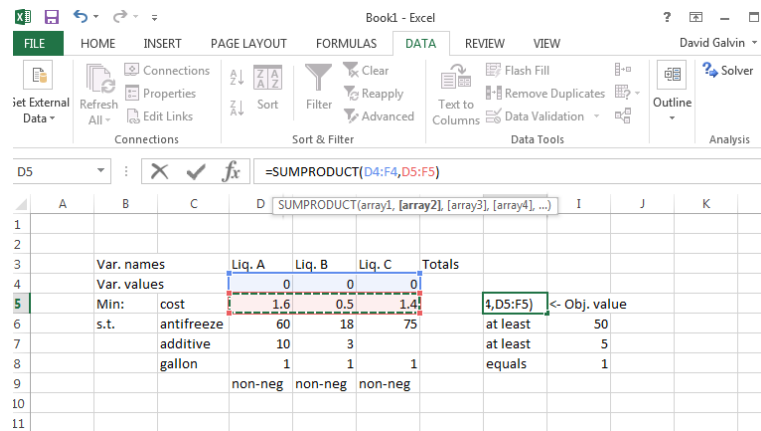

Figure 2: Telling Excel what the objective function is
1. Tell Excel that the objective value, appearing in cell H5, is calculated from the variable values and the coefficients appearing in the objective row. Do this by clicking in cell H5, and then in the equation box typing “ $=D\$4*D\$5+E\$4*E\$5+F\$4*F\$5$ ”. But note that there is another, cleaner way to express this sum-of-products, and that’s using Excel’s SUMPRODUCT command. In this case, you would type into the equation box “ $=SUMPRODUCT(D\$4:F\$4,D\$5:F\$5)$ ” (this tells Excel to multiply each entry in the string of cells from D4 to F4, by the corresponding entry in the string from D5 to F5, and then add the results). Notice that “0” now appears in cell H5; that’s the value of the objective when all variables are set to 0, in this case. See screenshot (fig 2).